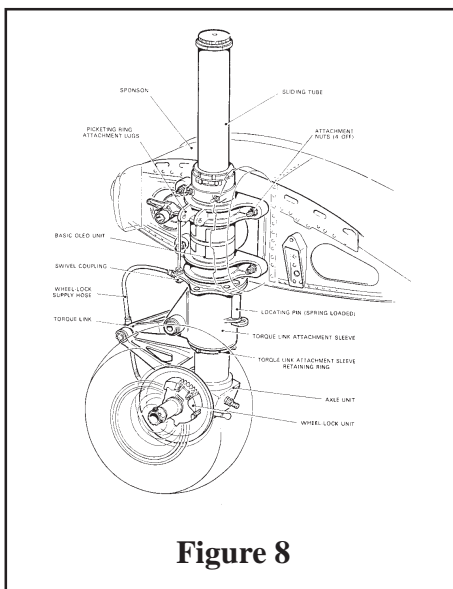

Figure 8
49. Drill a 0.030" (0.75mm) hole through the main gear. Install a length of brass wire as an axle. Note that this axle protrudes about 3/16" (4.7mm) on the inside (other side from the wheel) as well. Drill the wheel to suit the axle and install. For details, see Figure 8. It is best to leave off the landing gear until final assembly.